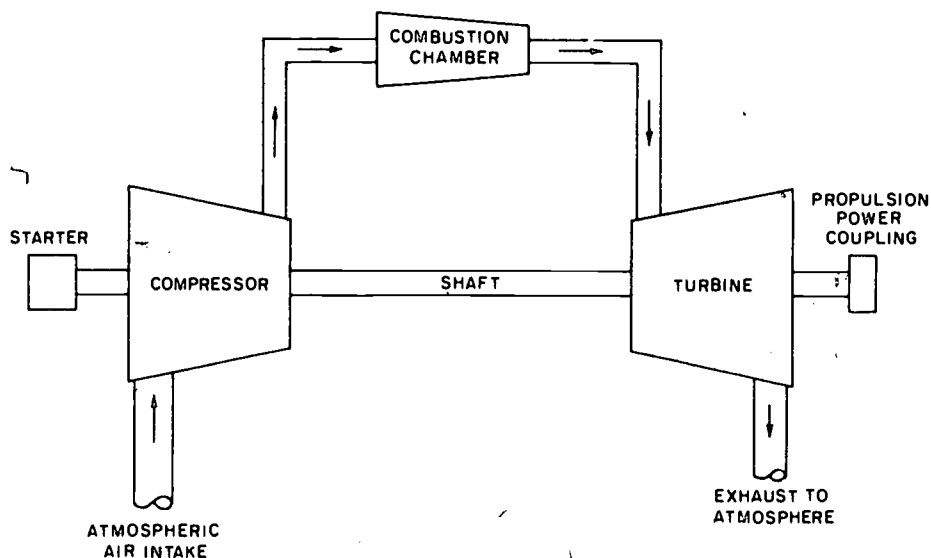

Figure 12-8.—Schematic diagram showing relationship of parts in single-shaft gas turbine engine.
The components of a gas turbine engine may be grouped as (1) parts of the basic engine, (2) engine accessories, and (3) engine systems (fig. 12-8).